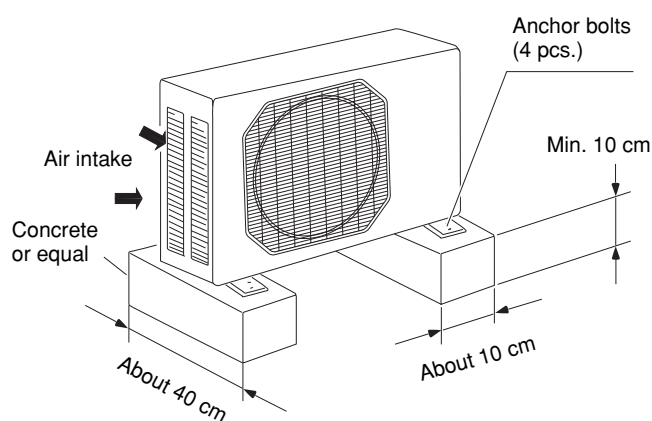

Fig. 5c
- provide a solid base (level concrete pad, concrete block, 10 × 40 cm beams or equal), a minimum of 10 cm above ground level to reduce humidity and protect the unit against possible water damage and decreased service life. (Fig. 5c)